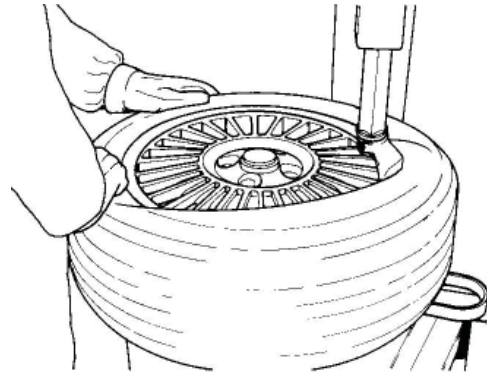

Fig. 4.1-6
G. Rotate the turntable clockwise and, at the same time, push down on the tire sidewall to move the bead into the drop center of the rim (Fig. 4.1-6).